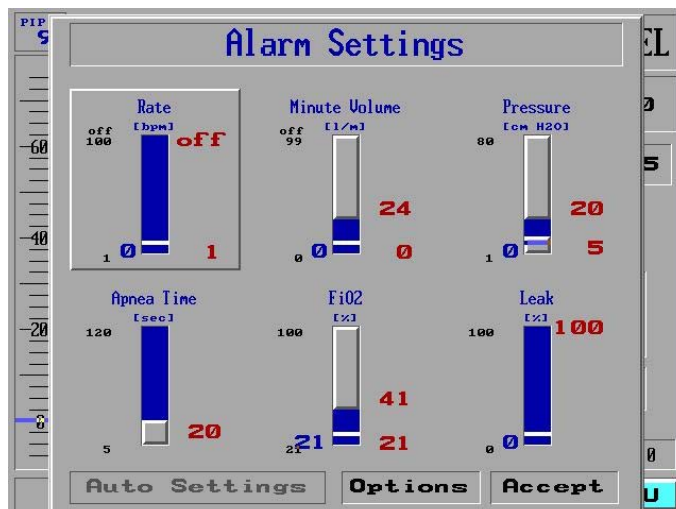

Figure 134: The Respiratory Rate Alarm Slider Selected
3. In the **Alarm Settings** screen, dial the Control Knob until **Rate** is selected in relief on the top left (Figure 134).